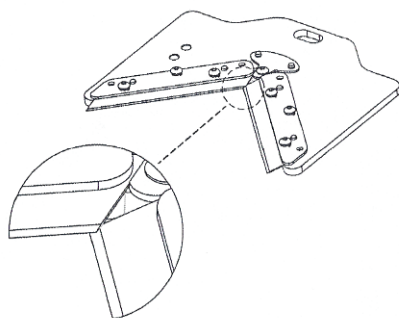

Figure 17
- 9) Follow Step 7 and 8 above to replace the left side blade. **The left side Blade will be on top of the tip of the right side Blade.** See Figure 17.